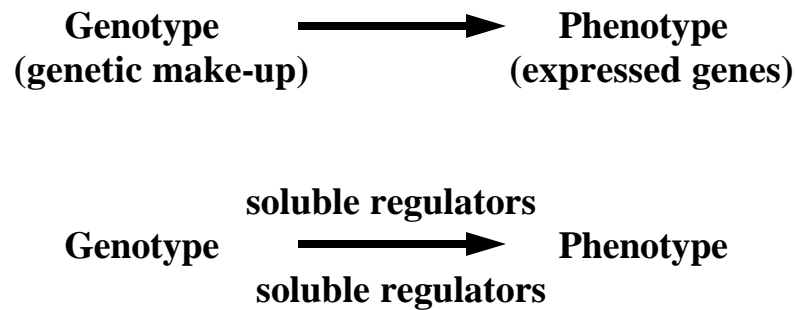

Fig. 1.1
1.2 Genotype/Phenotype (Fig. 1.1)